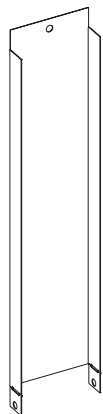

Figure 27
7. Locate the steel standoff brackets inside the hardware box. See Figure 27.